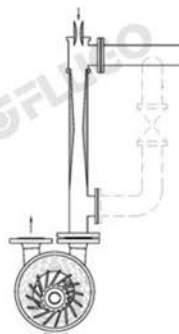

Fig. 11 Bypass pipe
- In order to reduce draining time, a bypass pipeline can be installed. (→Fig.11)